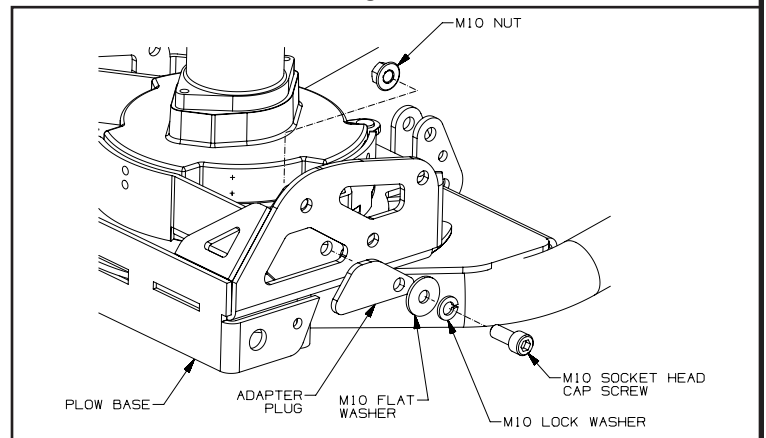

Figure 9
9. Use adapter kit (PN89220) if the base has a cutout, See Figure 9.